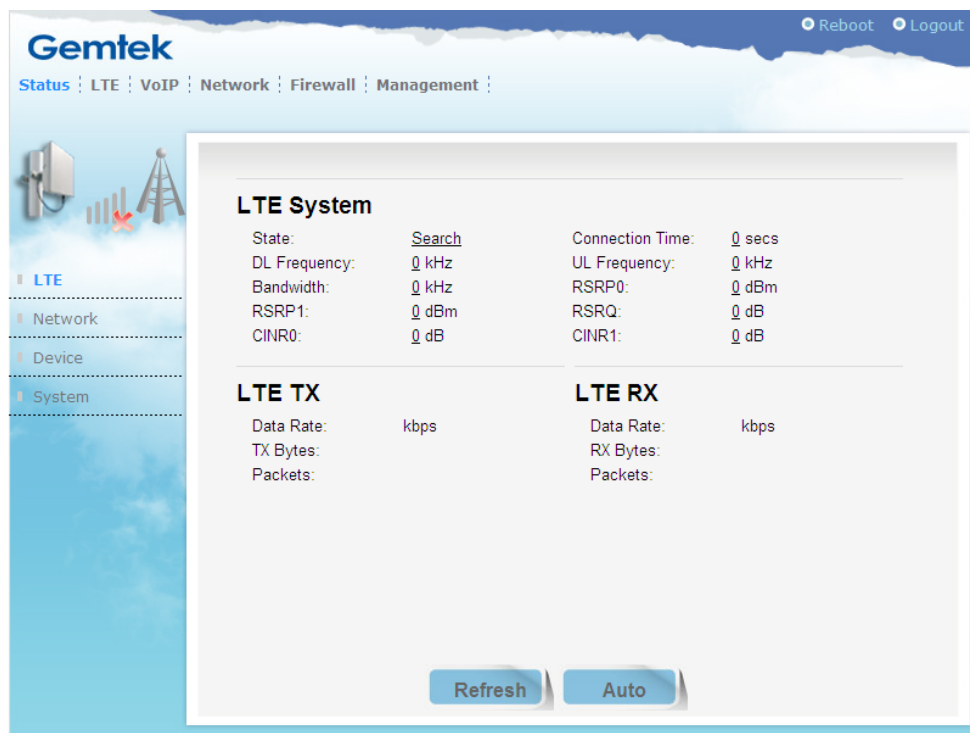

Figure 4: User Interface
Step 3: Simply configure the device settings after login (Figure 4).